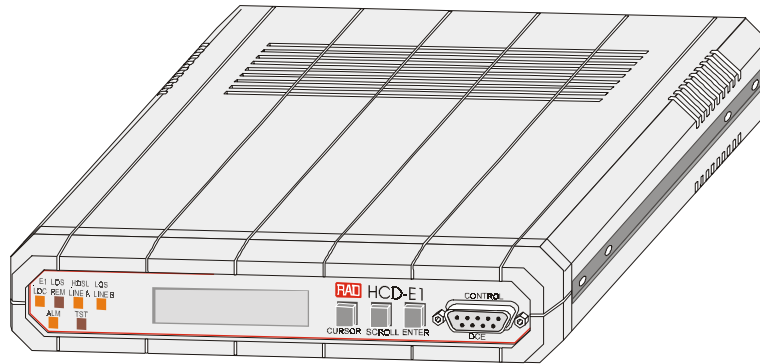

Figure 1-2 HCD-E1 3D View
*Figure 1-2 shows the 3D view of HCD-E1.*